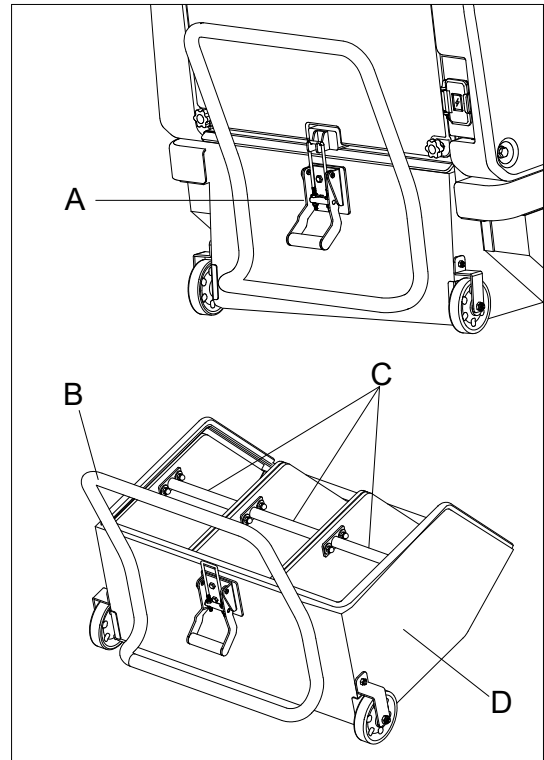

Figure 13
6. The hopper (D, Figure 13) should be emptied after each working cycle and whenever it is full (see the procedure in the following paragraph).
3. Disengage the latch (A, Figure 13) by pulling its lower end.
4. Remove the hopper (D, Figure 13) by disengaging it from the inner guides with the handle (B, Figure 13).
5. Discharge all the debris into special containers. To make discharging procedure easier, there are three inner boxes (optional) with handle (C, Figure 13) inside the hopper.
6. Install the inner boxes with handle (C, Figure 13), if equipped.
7. Install the hopper (D, Figure 13) and engage it to the inner guides, then fasten it with the latch (A, Figure 13).
10. Empty the hopper (D, Figure 13) (see the procedures in the previous paragraph).